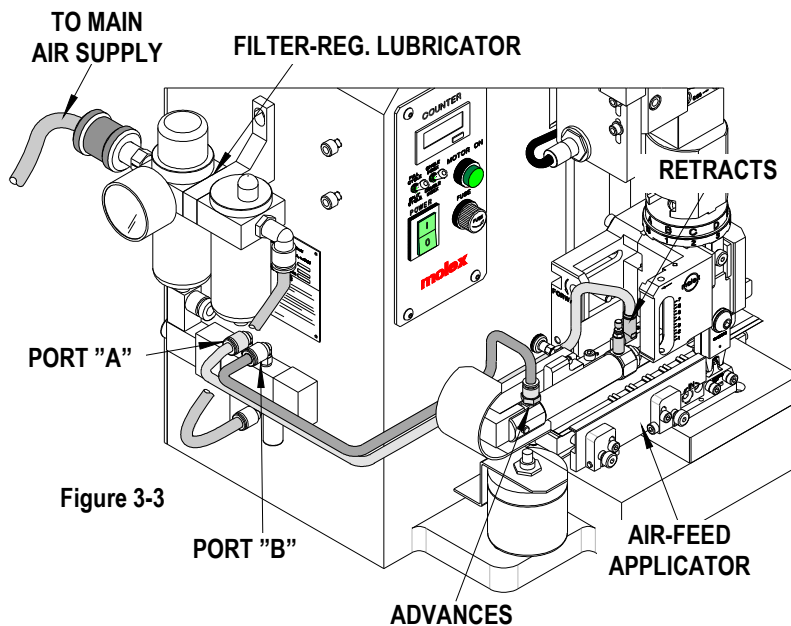

Figure 3-3
11. Insert the “A” port of the air valve with the tube that retracts the feed mechanism of the applicator. See Figure 3-3.
12. Insert the “B” port of the air valve with the tube that advances the feed mechanism of the applicator. See Figure 3-3.